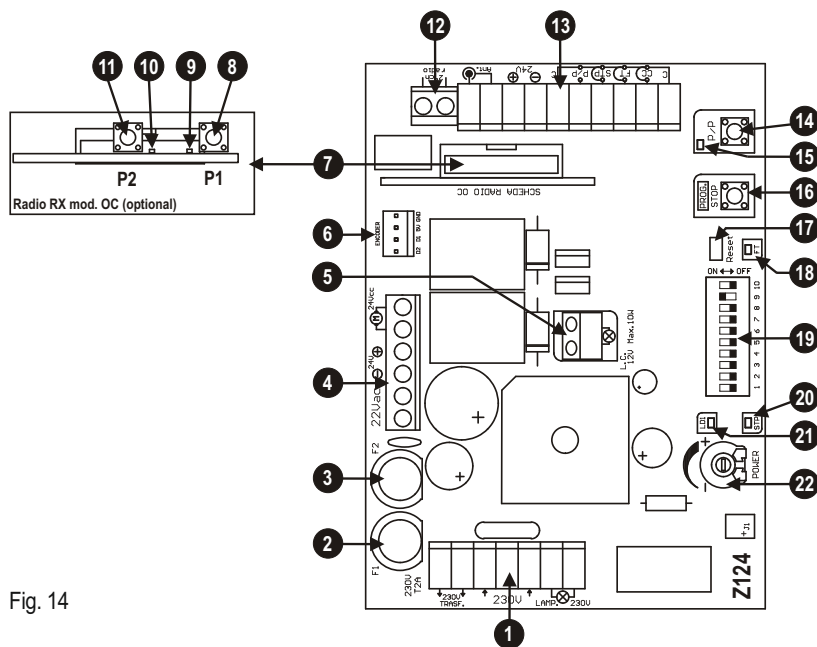
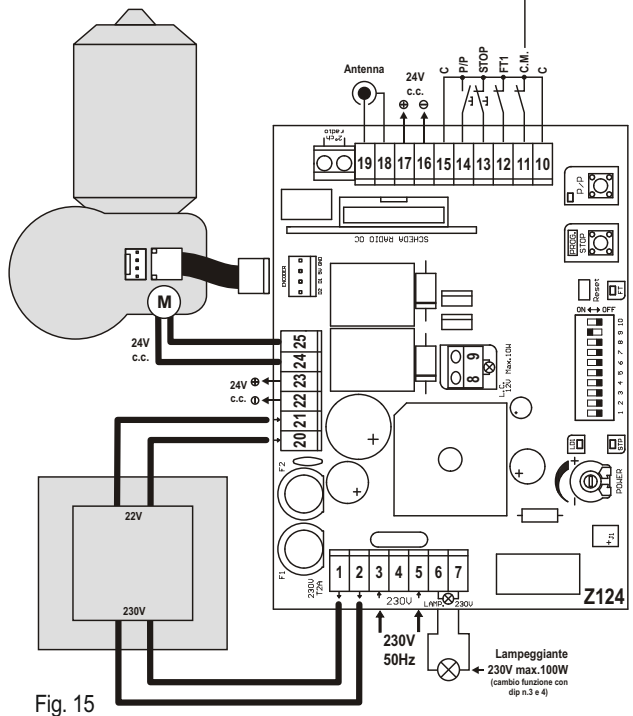

Fig. 14
Fig. 15
For connections, refer to tables 1 and 2 and figure 15.
- 1) Keep the PROG key pressed. Use a screwdriver to short the jump Reset (detail 17 of fig. 14).
- 9) To return to normal operating mode, reset the control unit (short the connector, detail 17 of fig.14)
During the self-learning phase, the key S/S is pressed repeatedly (detail 14 of fig 14), alternatively the control S/S control can be used (terminal 14, fig. 15) or the radio transmitter memorised on the first channel of the receiver.